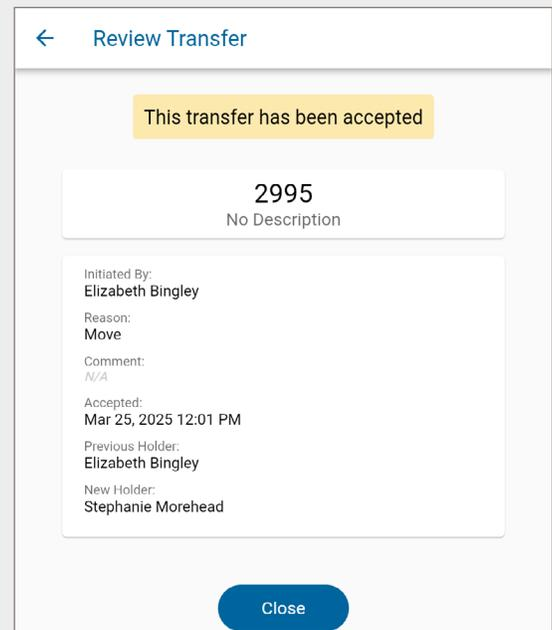

Fig. 147 – Review Transfer screen – outgoing transfer
- 🔑 The status of the transfer is displayed at the top of the screen, as shown in Fig. 147.